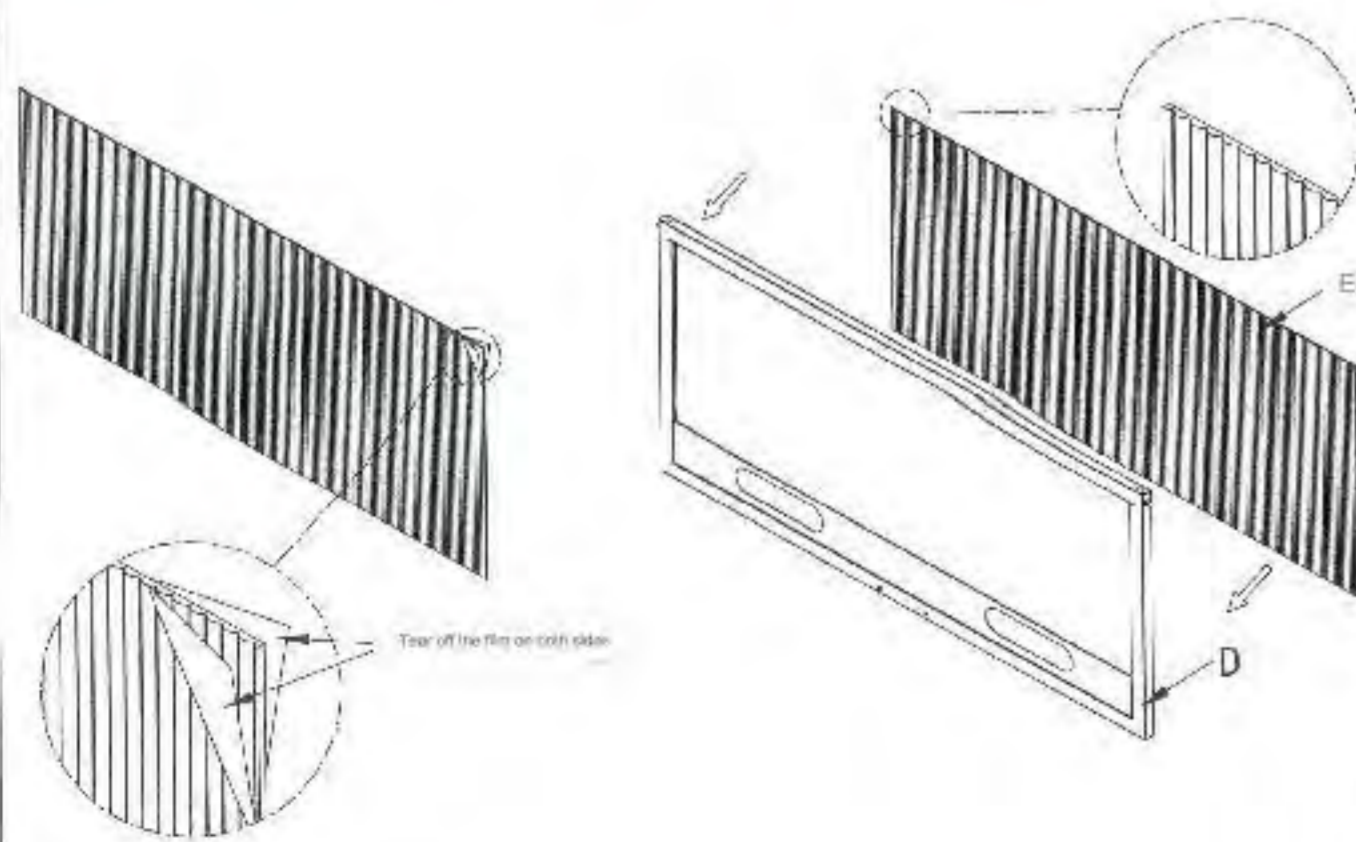
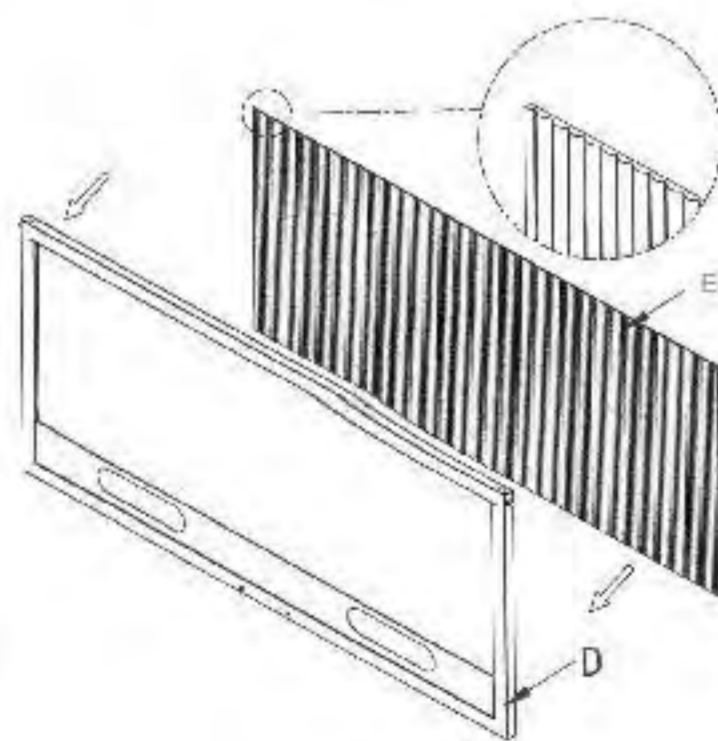

Figure 7
Figure 8
5. First tear off the film on both sides of the acrylic panel as shown in Figure 7, and then place the acrylic corrugated side forward into the door panel in the direction as shown in Figure 8